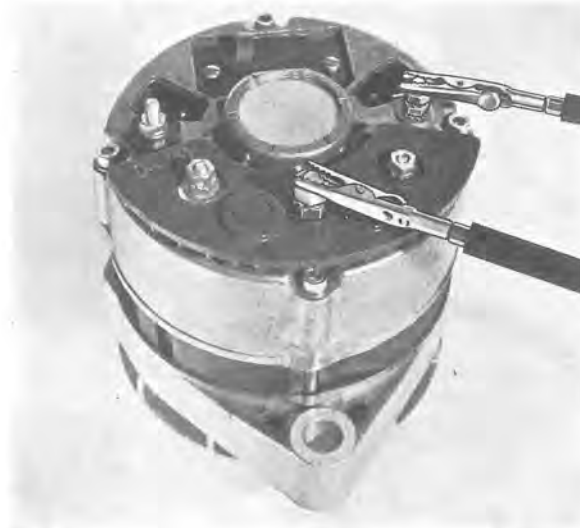

Fig. 3-19. Checking alternator
7. Connect a test lamp between B+ and the alternator frame. Switch the terminals. The lamp should light only in one direction, see Fig. 3-19. After any repairs, the alternator should be test-run in a test bench.